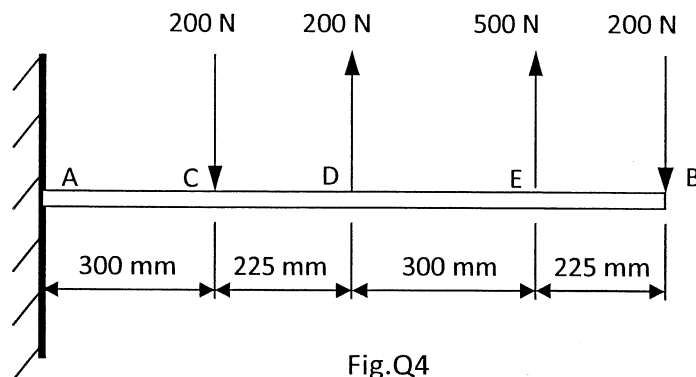

Fig.Q4
- c) For the beam and loading shown in Fig.Q4,